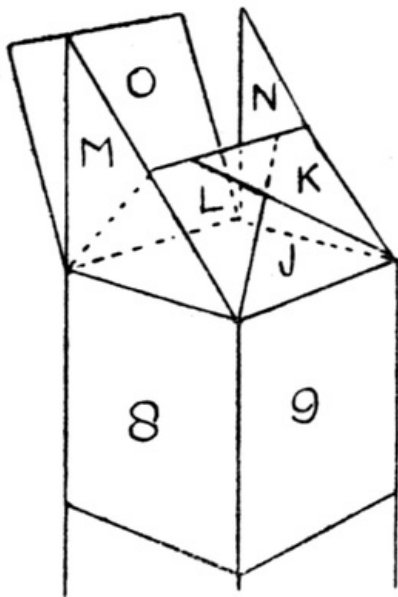
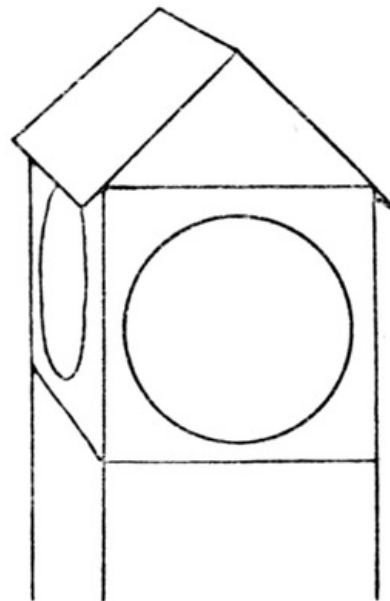

FIG. 70
FIG. 71
**To fasten Tower together.** Fold the sides 8 and 10 at right angles to 9; bend J forward and gum to it both K and L (Fig. 70), and cut off the part of J that projects beyond K and L. Now gum the side 7 to 11, bend O toward J; gum N to O and M to O and cut off the portion of O that projects beyond M and N. A piece of paper, painted to represent slates, can be gummed over the roof, so that it projects slightly, as in Fig. 71.